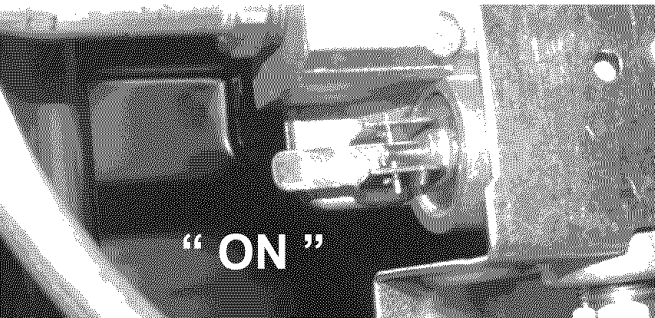

Fig. 4f
- Make sure service shut-off valve on pressure regulator is in the "ON" position** (See Fig. 4f).